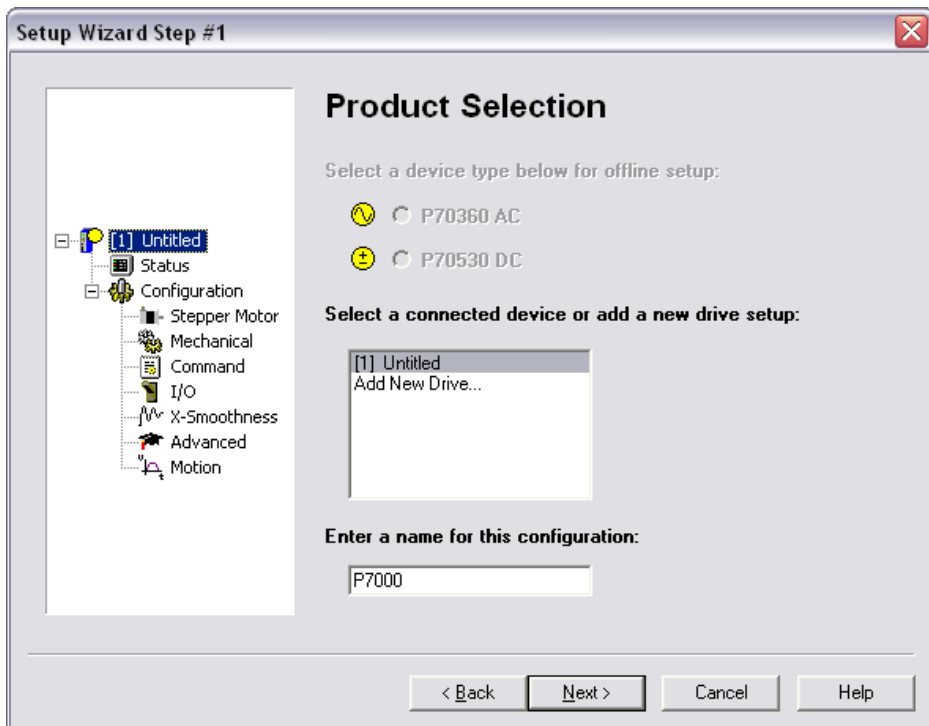

Figure 11. Product Selection
3. Click **Next**, and the P7000 software searches for connected drives on the COM1 port. Once detected, the product selection dialog appears as shown in Figure 11. You may enter a new name for the drive or leave the default.